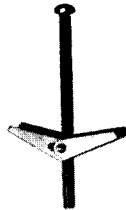

Figure 2: Toggle Bolt Image
The provided wall brackets must be mounted to the center of a minimum of two (2) studs per bracket using standard or stainless steel toggle bolts 3/16" in diameter or larger and at least 2" long for direct mounting on stud. Increase the bolt length to account for any additional materials covering the stud. See Figure 2 for visual reference of toggle bolt.